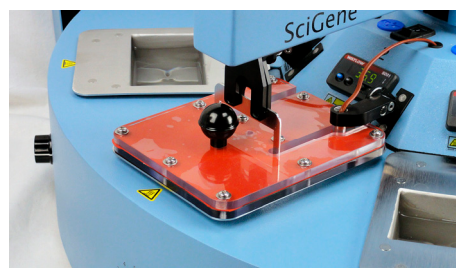

Fig 4. Do **not** agitate gripper arm while cover is in place.
2. Edit the protocol to set agitation to “0” during any step using the cover (Fig. 4).